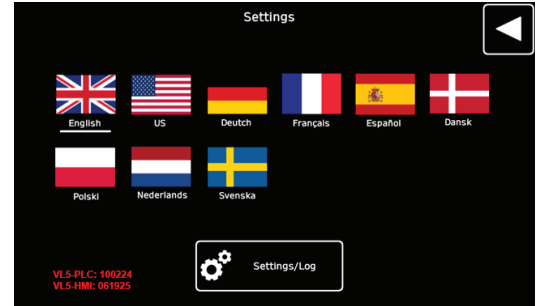

Figure 19-1.
1. For the mixer language selection, select the applicable flag. (Figure 19-1). Factory default setting is set to US.